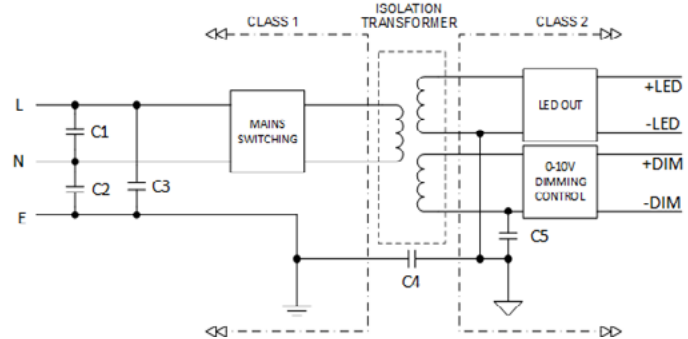

Figure 7 Simplified Driver Schematic
A simplified LED driver schematic is seen in Figure 7. Underwriters Laboratories (UL) typically draws a distinction between Class 1 and Class 2 circuits as a matter of safety and associated test and evaluation requirements. Class 1 circuits are typically on the input side (mains) and are considered as 'hazardous' while Class 2 circuits are typically low voltage/low energy. For safety reasons UL requires that the circuit grounds